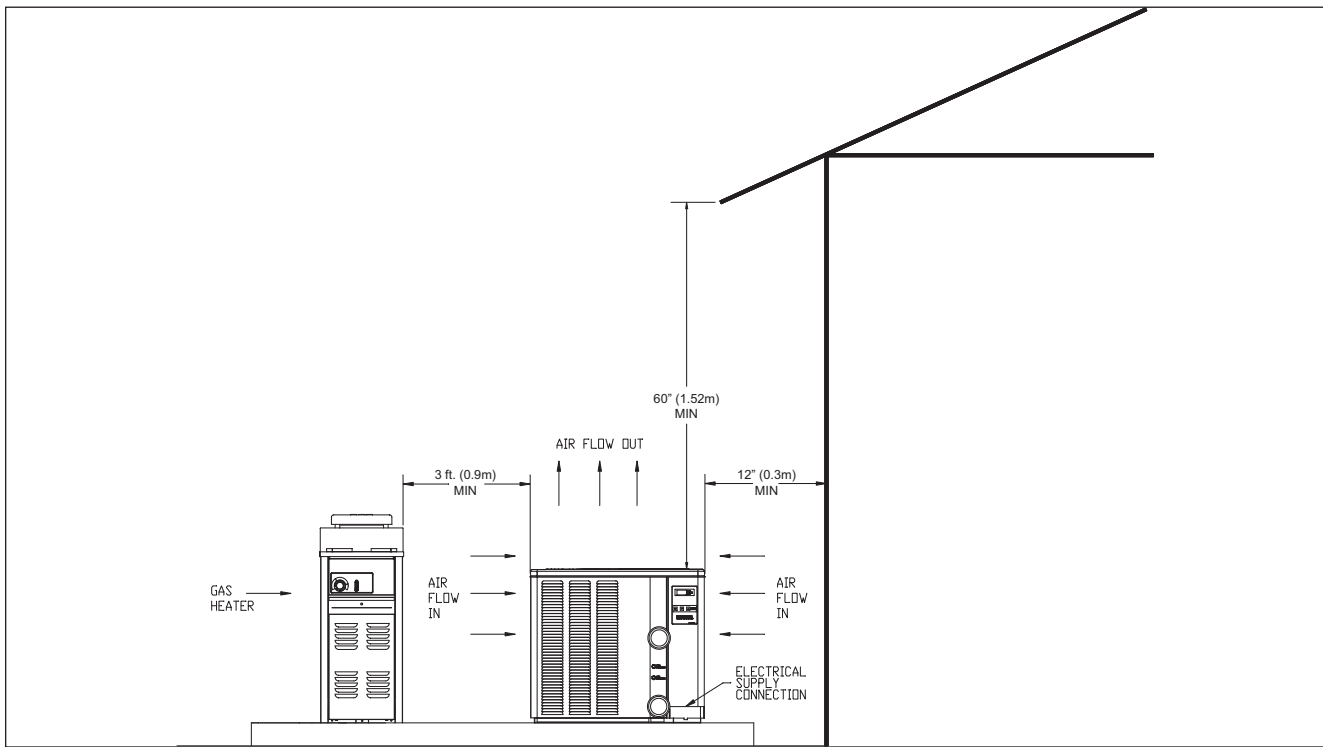

Fig. 1: Installation Clearances
- This unit features an 'up-flow' discharge for quiet operation. Air is pulled up through the evaporator coil and discharged through the top grill. Allow at least 5 ft (1.5 m) clearance above the unit for unrestricted air discharge. **DO NOT** install the unit under a porch or deck. Refer to Fig. 1.